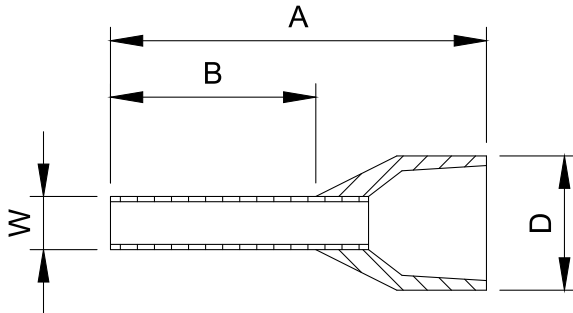

Figure 3-10
- Use the specified ring lug for main circuit terminal wiring. See Figure 3-10 for pin terminal and tube terminal specifications. For other types of wiring, use the wires that comply with the local regulations.